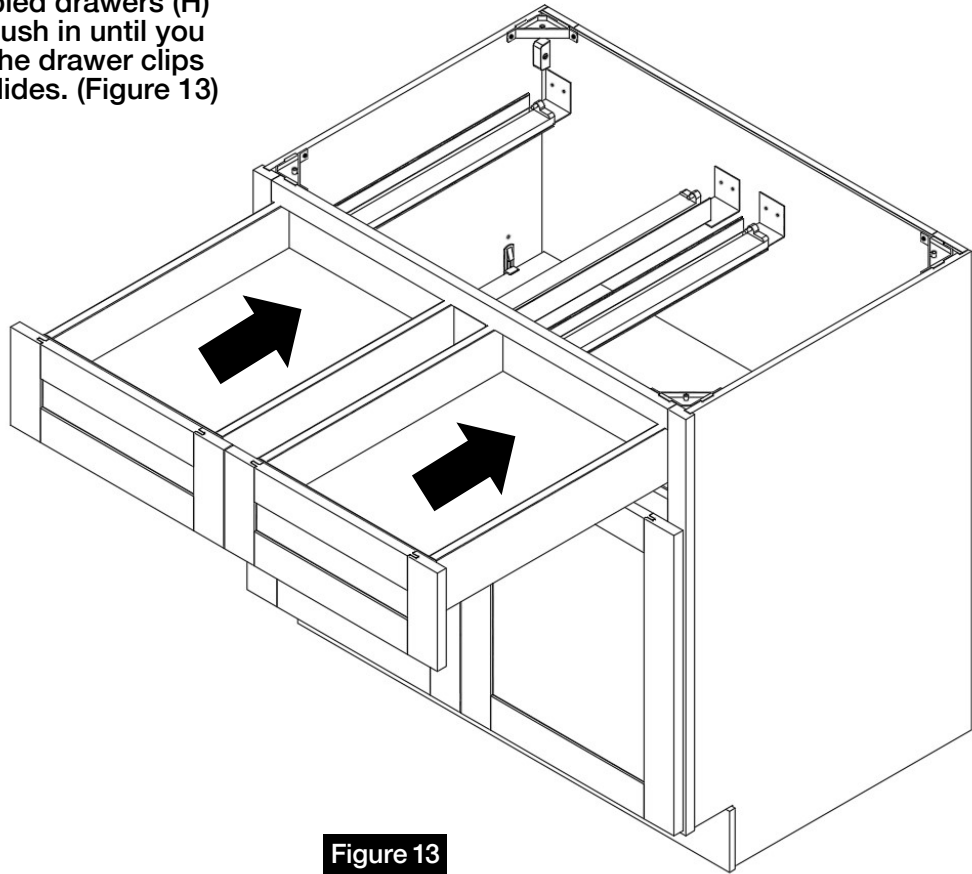

Figure 13
Insert the assembled drawers (H) onto the glides. Push in until you hear clicks from the drawer clips locking into the glides. (Figure 13)